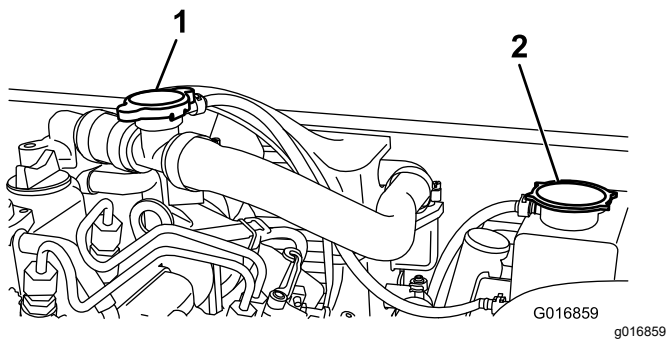

Figure 55
2. Remove the radiator-overflow-tank cap (Figure 55).
2. Remove the fill cap (Figure 55) and fill with coolant.
3. Replace the fill cap and remove the radiator-overflow-tank cap (Figure 55).